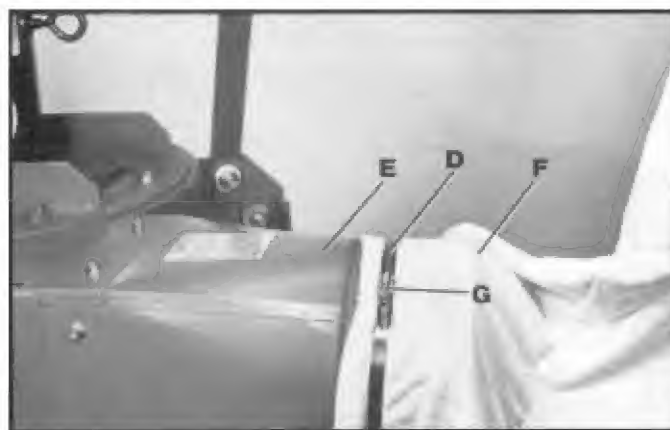
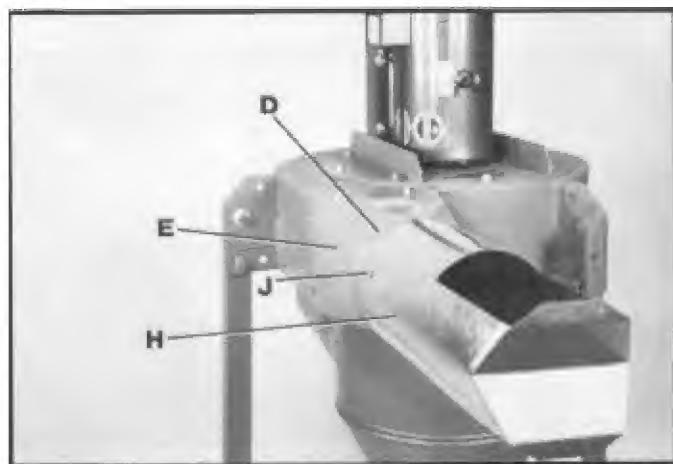
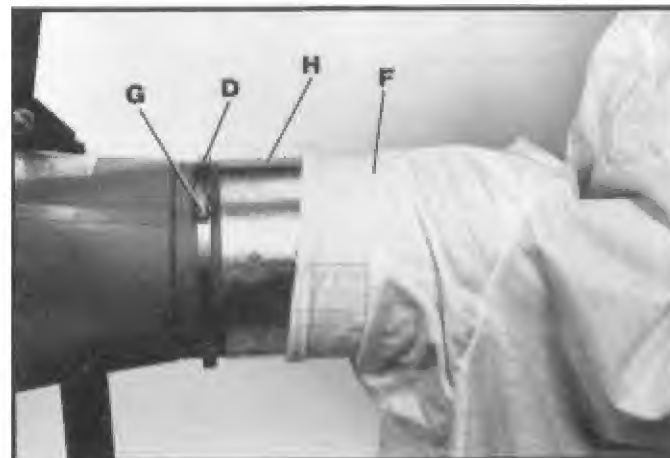

Fig. 28
Fig. 29
Fig. 30
Slide clamp (D) Fig. 28, over outlet connector (E). Slide small diameter bag opening (F) over sleeve of outlet connector (E), then slide clamp (D) over bag (F) and tighten screw (G).
Slide clamp (D) Fig. 29, over outlet connector (E). Assemble air flow diverter (H) Fig. 29, supplied with the dust collector, over sleeve of outlet connector (E) with the openings facing up and down as shown. Align the four holes in the diverter (H), with the four pre-drilled holes in the outlet connector (E) and fasten with four 1/2 inch-long sheet metal screws, one of which is shown at (J) Fig. 29. Carefully slide small diameter bag opening (F) Fig. 30, over diverter (H) as shown, then slide clamp (D) over bag (F) and onto sleeve of outlet connector (E), as shown in Fig. 28, and tighten screw (G).